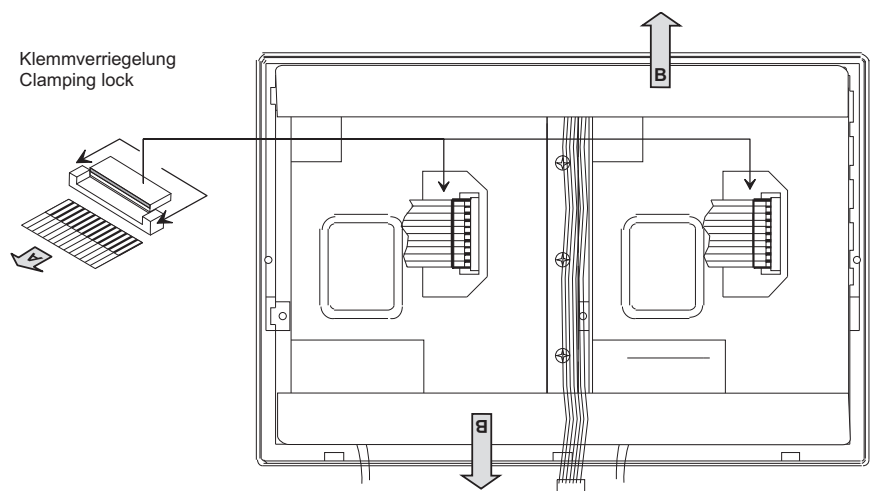

Fig. 8-27: Removing of the flat cables and cover strips from the display
9. Loose the locker of the flat cable at the damaged display unit (fig. 8-27, A). Remove flat cables. Avoid damage of the flat cables because of canting.
10. Remove carefully both cover strips from the displays (fig. 8-27, B).